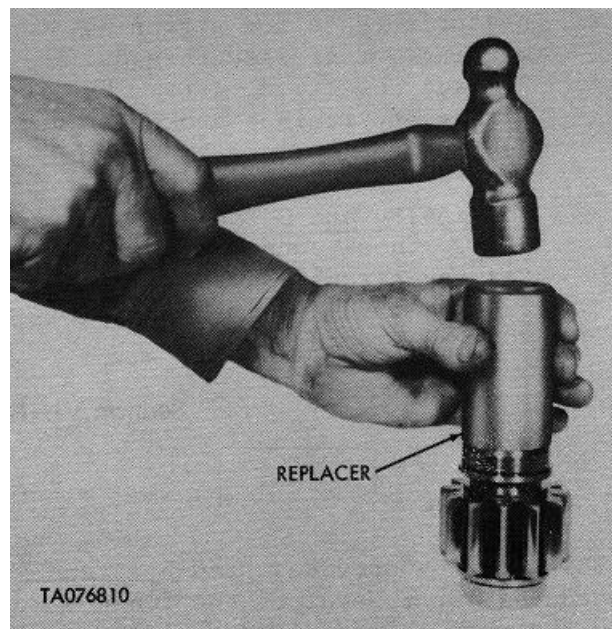

Figure 4-32. Inner Race of Bearings Pressed onto Pinion Gear Shaft
- gear bore of cover assembly (2) and housing (7). Press inner races of roller bearings (3 and 10) on pinion gear (4) using replacer, special tool (32, fig. 1-2). Refer to figure 4-32.
- (n) Install pinion gear (4) in housing so that it is meshed with spur gear (5).
- (o) Place new gasket (6) on housing. Fit cover assembly to pinion shaft (4) and output shaft (25). Secure housing (7) to cover assembly (2) with 3 capscrews (9), 8 capscrews (17), 11 flat washers (8), 8 flat washers (39), and 8 safety nuts (40). Tighten capscrews to 110 130 in-lb torque. Safety wire capscrews (17) together in pairs with lockwire.
- (p) Install new gasket (20) on plug (19). Install plugs (18 and 19).
- (r) Install two plugs (21).